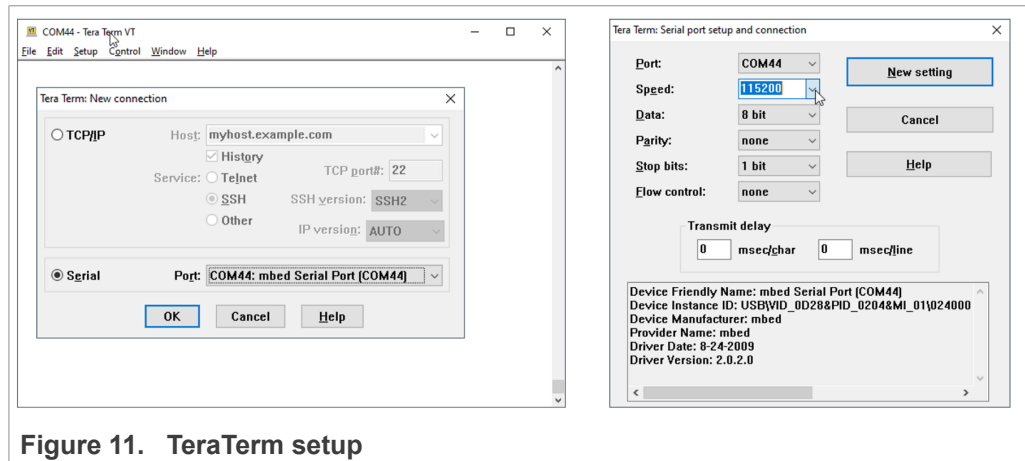

Figure 11. TeraTerm setup
2. Launch and setup TeraTerm application as shown in Figure 11: